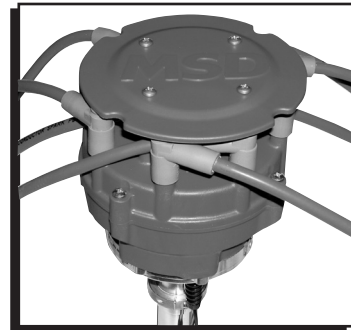

Figure 5 Installing the Wire
6. Install the Wire Retainer over the wires and use the supplied four self tapping screws to secure it (Figure 5). Depending on the style spark plug boots being used, the Retainer may not sit all the way flush on the posts of the cap.